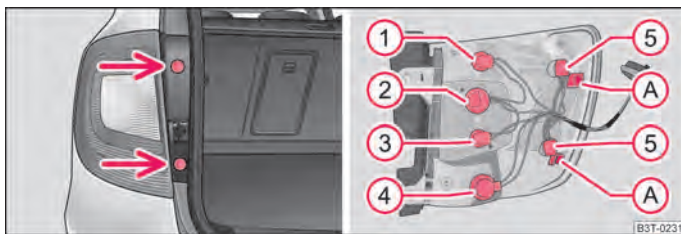

Fig. 209 Remove rear light unit (Combi)
- Take out the plugs ⇒ fig. 209 - left and unscrew the rear light unit using a torx wrench¹⁾.
- When re-installing, first insert the rear light unit with the openings (A) onto the studs in the body.
Fitting position of the bulbs ⇒ fig. 209.